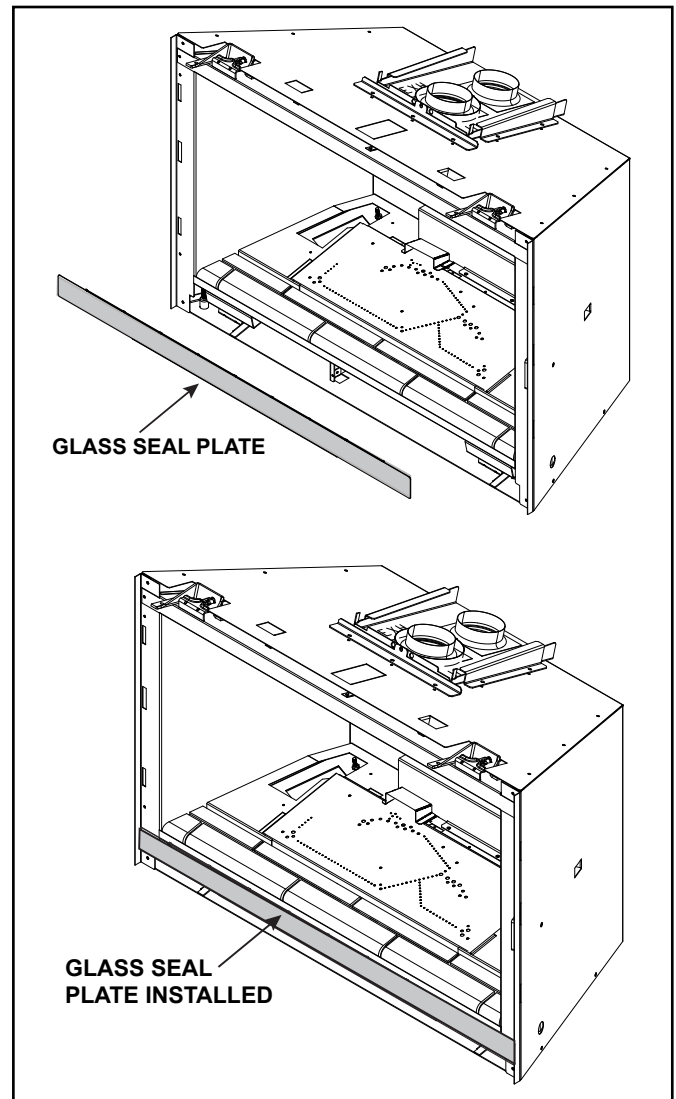

Figure 3.6 Glass Seal Plate
- Verify Glass Seal Plate is properly installed. See Figure 3.6.